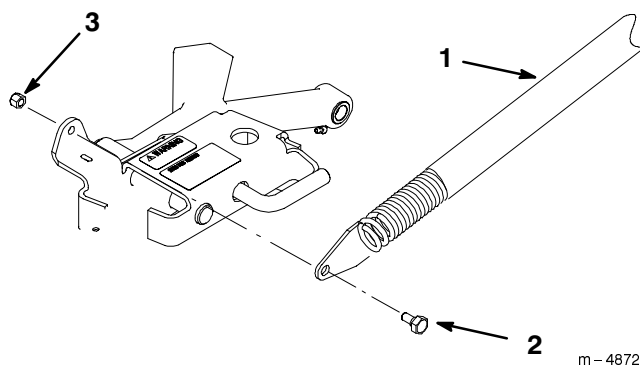

Figure 32
6. Secure spring end plate assembly to carrier frame with 3/8" x 7/8" (23 mm) shoulder bolt and 3/8" locknut (Fig. 32).